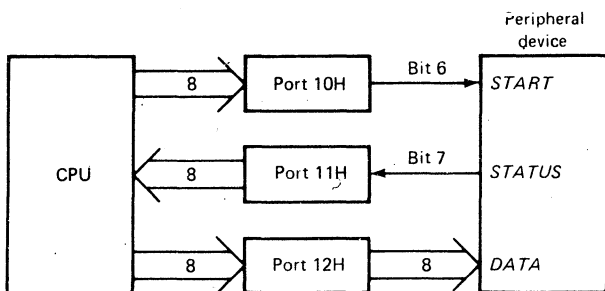

Fig. 14-16
- 14-5.** Write a program that transfers 1,024 bytes from addresses 8000H to 83FFH to a peripheral device. Use the same handshaking bits as Fig. 14-16.